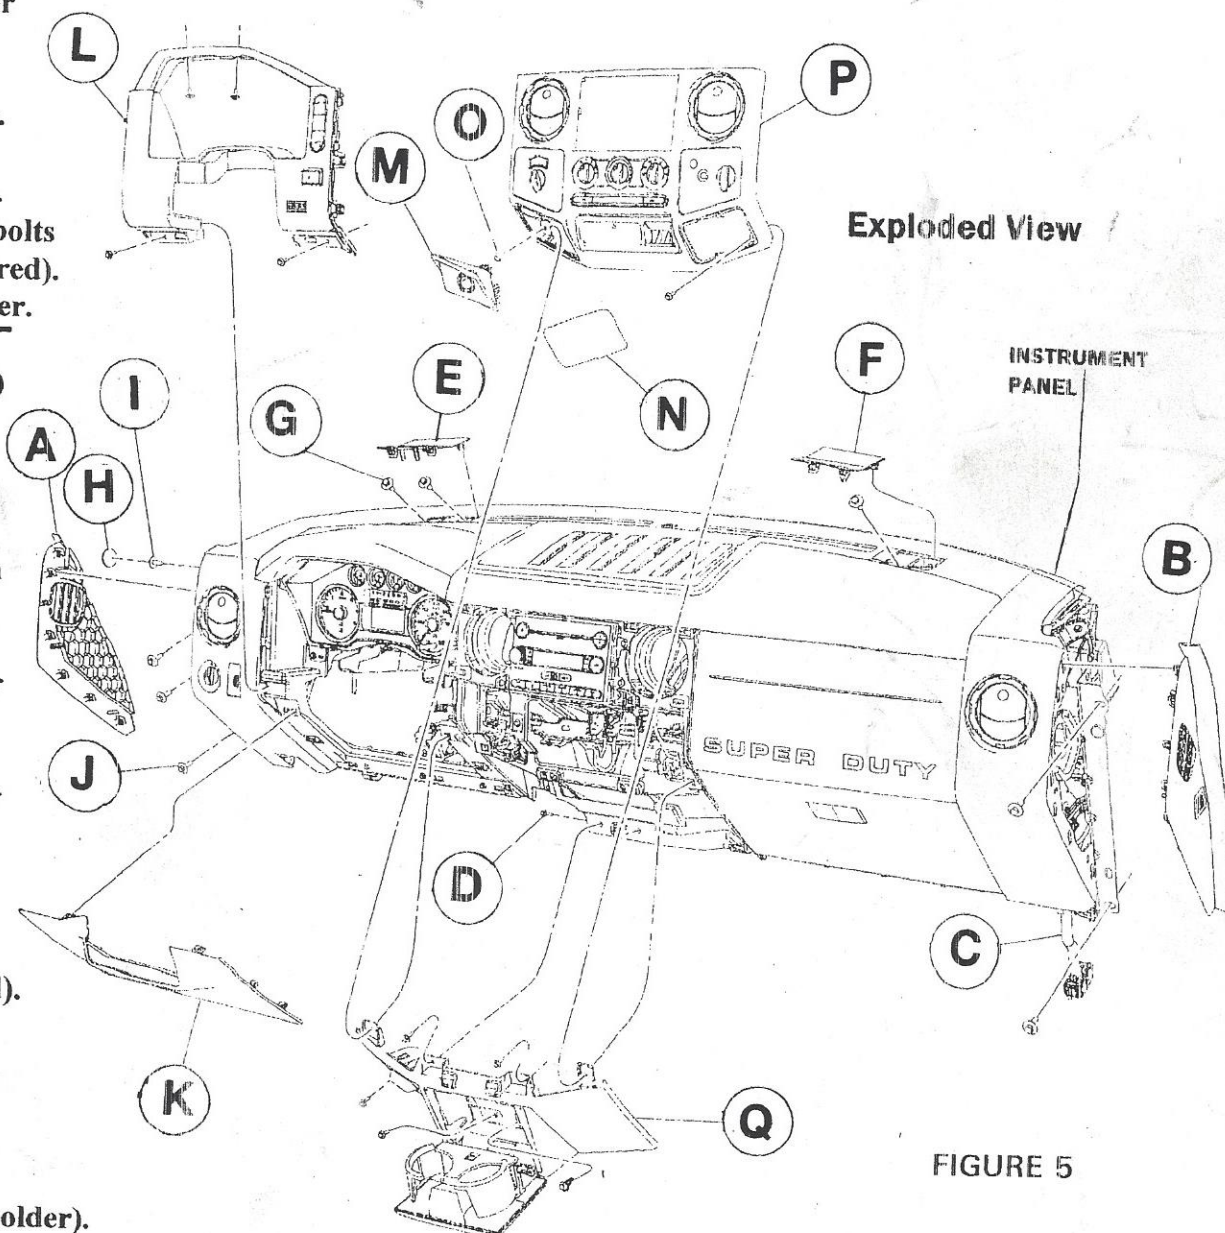

FIGURE 5
# **INSTRUMENT PANEL (IP) REMOVAL (EXPLODED VIEW FIGURE 5)**
- A. (DS) IP side trim panel.
- B. (PS) IP side trim panel.
- E. (DS) IP upper cowl bolt cover.
- F. (PS) IP upper cowl bolt cover.
- G. IP upper cowl bolts (three (3) required).
- J. IP bolts (five (5) required).